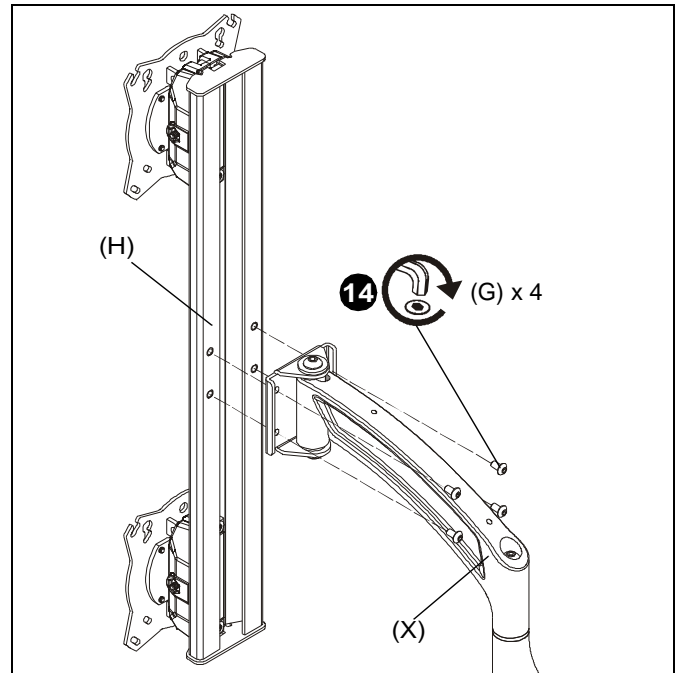

Figure 7
- 14. Use four #10-24 x 1/2" button head cap screws (G) to secure head assembly (H) to arm assembly (X). (See Figure 7)